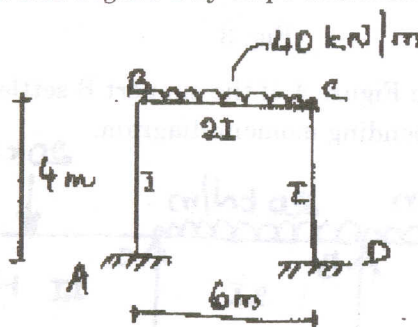

Fig. 1
- II. (a) Analyse the frame shown in Figure 1 by slope deflection method and draw bending moment diagram.